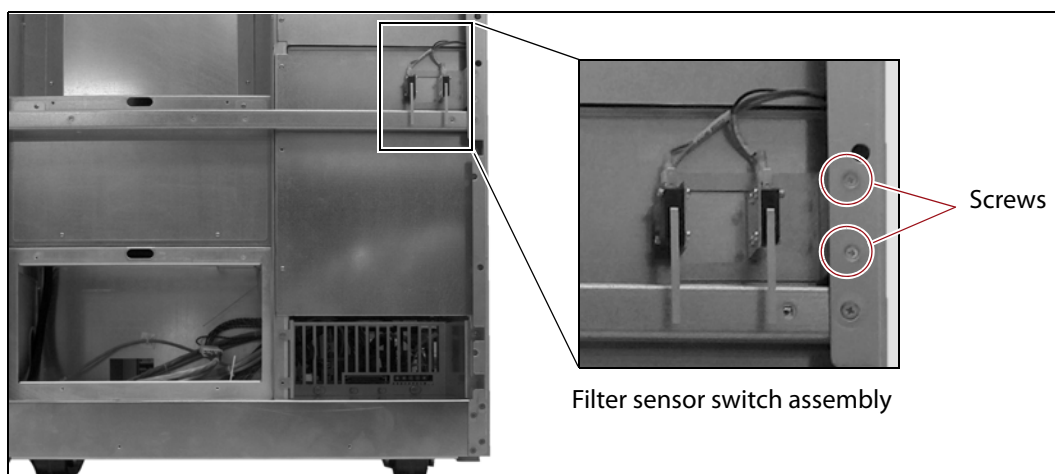

Figure 64 Attach the fan sensor switch assembly to the frame.
4. Using a #2 Phillips screwdriver, install the two screws to secure the filter sensor switch assembly to the frame (see Figure 64).